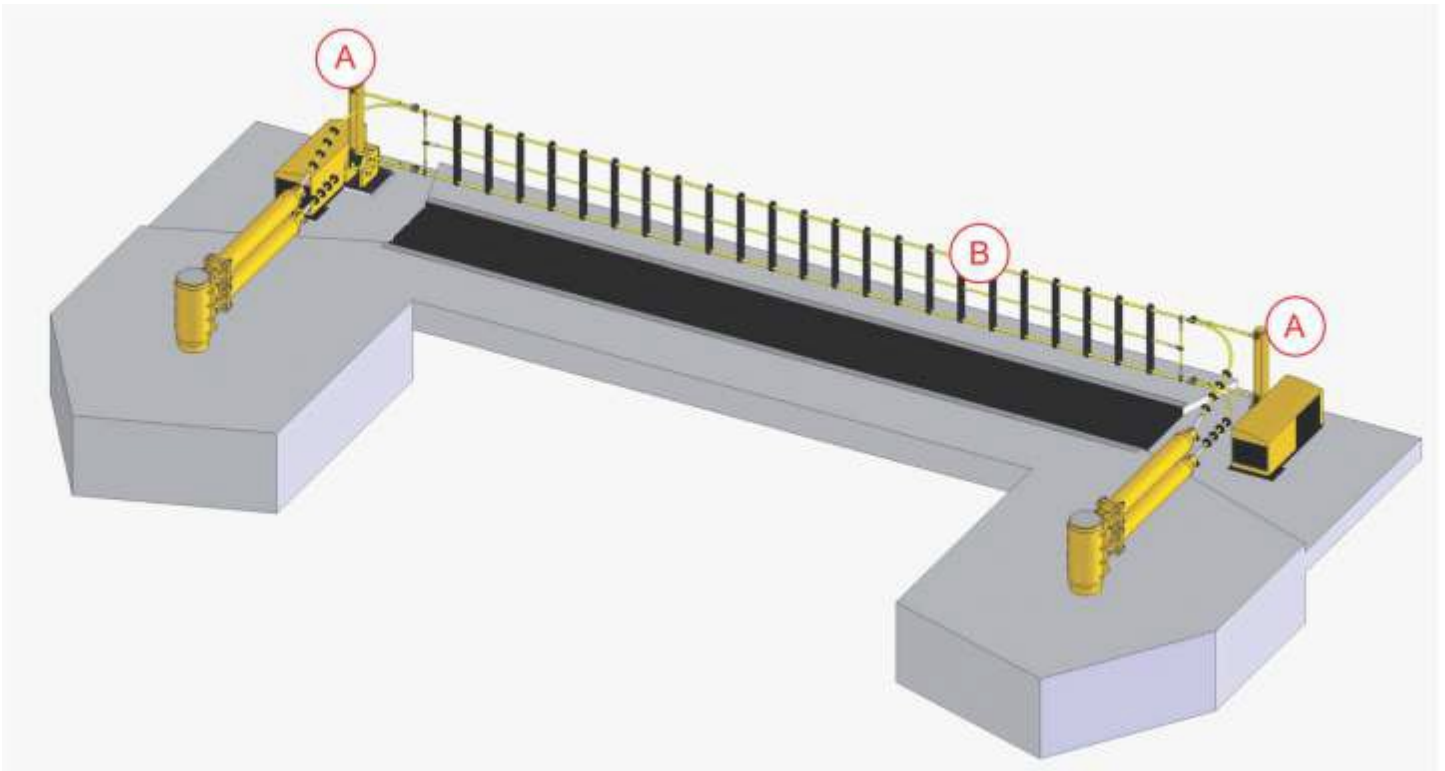

Figure 3
*Check that the net (B) Figure 3 goes up and down in a continuous motion and that the arms (A) travel in unison.*
Detail from Figure 3